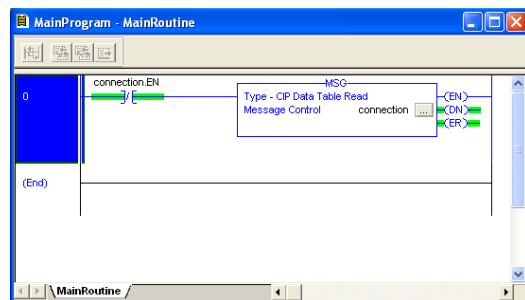

Figure 63: Complete Program
- 6) The program is now complete. Refer to Figure 63.